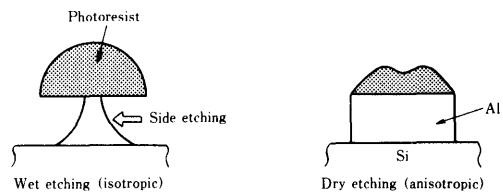

Fig. 2-3 Cross sections of devices during wiring process using the etching methods
- (1) Anisotropic dry etching using special gas is adopted (Figure 2-3), since conventional wet etching using chemicals cannot ensure enough dimension precision for refined processes.